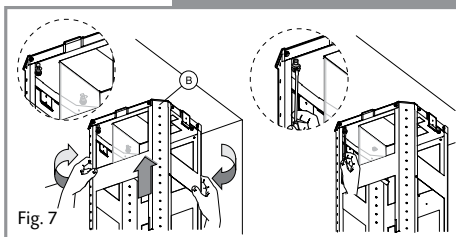

Fig. 7
4. Insert 3 screws into the main fixings, leaving approximately 3mm protruding, as shown in Fig 7
5. Fit the upper support section (B) into position on the 3 screws and rotate it into position, as shown in Fig 7.
6. When in position, tighten the 3 main screws and fit an additional screw (X) to fix the support frame section in position.